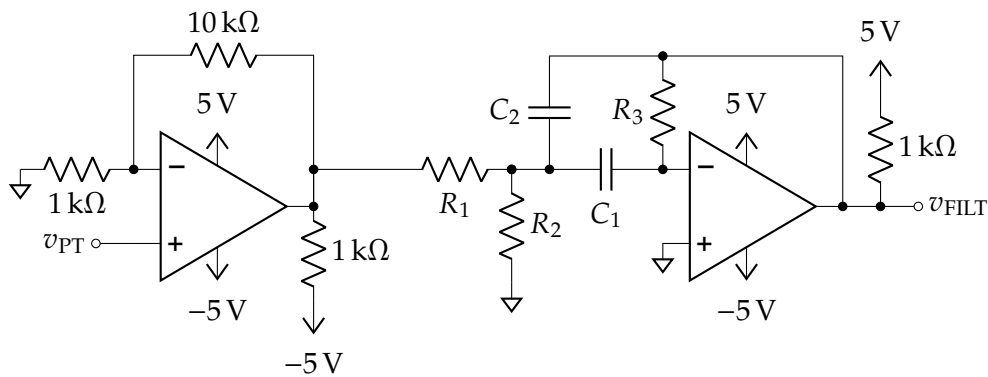

Figure 13.15: Receiver amplifier and filter
6. Construct the circuit in figure 13.15.
9. *Connect* the output of the phototransistor circuit in section 13.4 to the input of the filter circuit in figure 13.15.